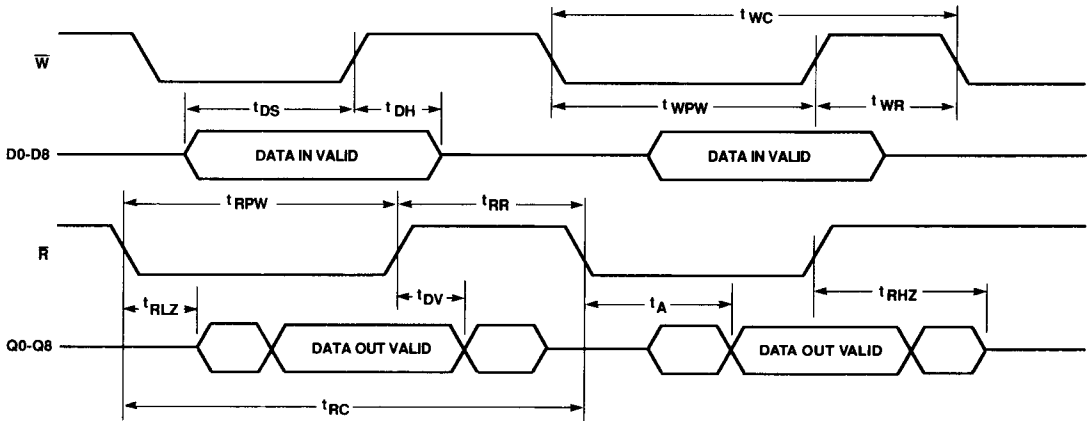

Figure 3. Asynchronous Write and Read Timing
The HIGH state of the Full Flag (\overline{FF}) indicates that the FIFO is capable of accepting data. The falling edge of Write (W) initiates a write cycle. (See Figure 3.) Data appearing at inputs D0-D8 tDS prior to, and tDH after, the rising edge of W will be stored sequentially in the FIFO.
The HIGH state of the Empty Flag (\overline{EF}) indicates that the FIFO is ready to output data. The falling edge of Read (\overline{R}) initiates a read cycle. (See Figure 3.) Valid data appears on the outputs Q0-Q8 tA after the falling edge of \overline{R} , and remains until tDV after the rising edge of \overline{R} . Q0-Q8 return to a high impedance state when \overline{R} is inactive, when the FIFO is empty, or when the FIFO is in Depth Expansion Mode but is not active.